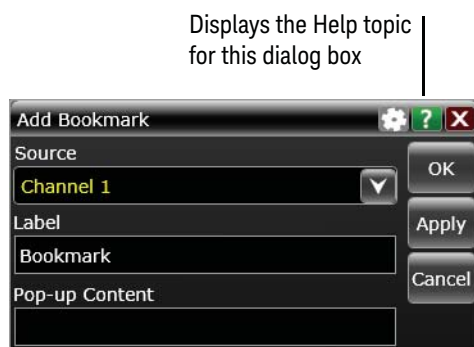

Figure 21 Help button for dialog box Help
- Click the question mark near the top right corner of a dialog box to open the help topic for that dialog box (Figure 21).